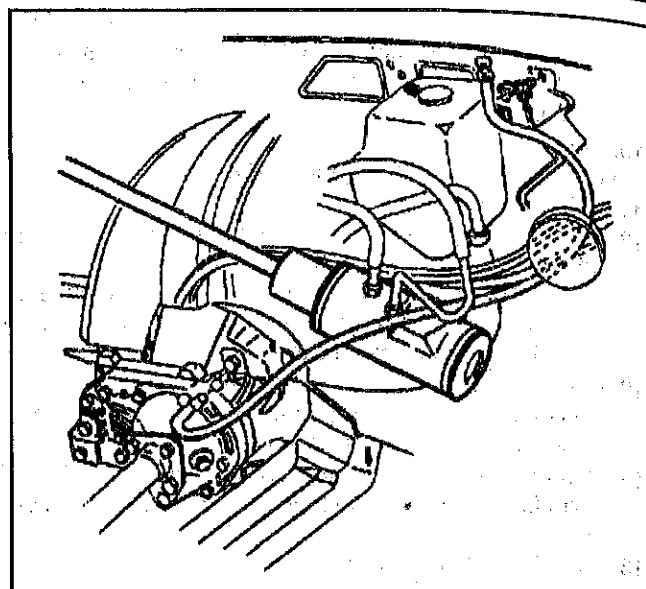

Figure 15—Vent Hose
When replacing the hose, make sure that it is routed as shown, free of kinks, and routed clear of sharp components (Figure 15). Make sure the vent is not plugged.
- Route as shown in Figure 15.